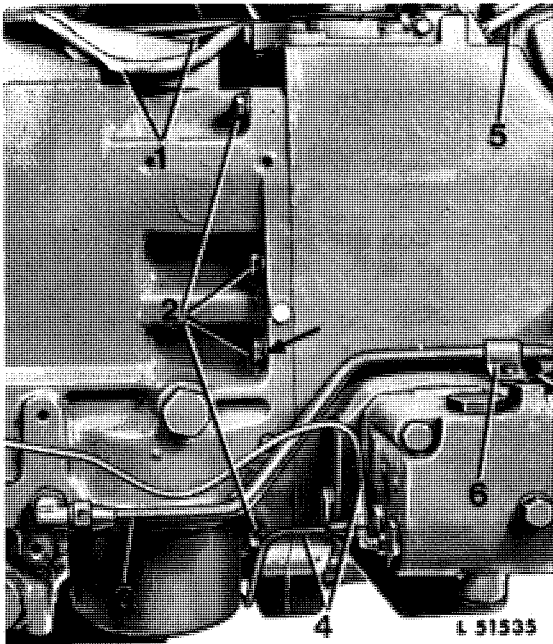

Fig. 6 — Separating between Clutch Housing and Transmission Case, R.H. Side
Disconnect hydraulic oil reservoir vent line (see 5, fig. 6) at connector on gear shift cover.
Remove clamp (see 6, fig. 6) and hydraulic pump pressure line 3.
Disconnect brake line (see 4, fig. 6) at master cylinder.
Remove cap screws 2 (figs. 6 and 7) securing clutch housing to transmission case, and separate clutch housing from transmission case.
*NOTE: Before inserting the third retaining screw in clutch housing (see arrow, fig. 6) coat it with a film of oil-resistant sealant.*